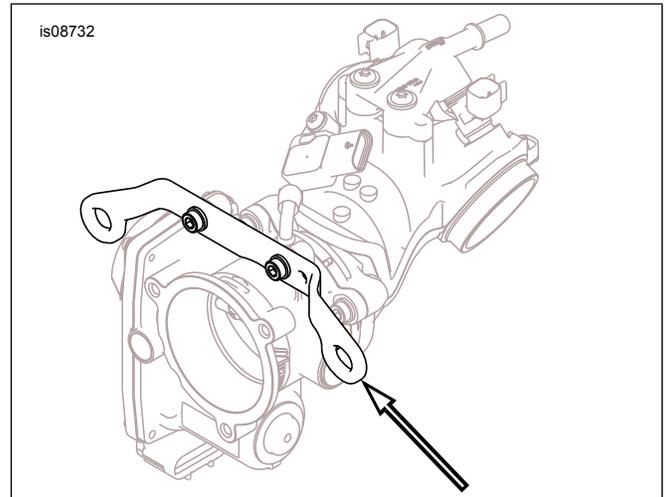

Figure 1. Induction Module Support Bracket
2. See Figure 1. Remove and discard induction module support bracket and mounting screws.